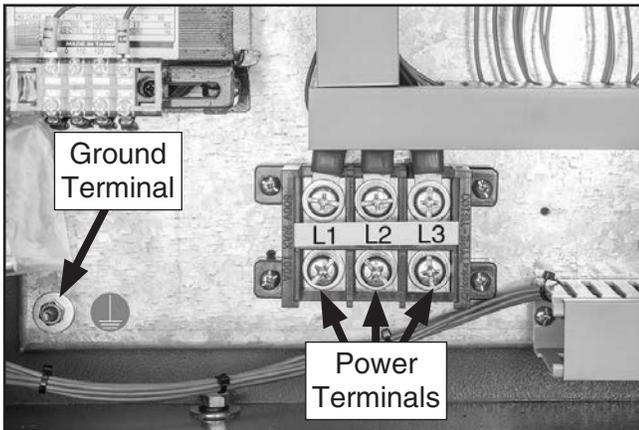

Figure 25. Terminal locations to connect ground wire and incoming power wires.
6. Connect ground wire to ground terminal (see **Figure 25**), then connect incoming power wires to power terminals (see **Figure 25**). (Refer to G0841 Wiring Manual for detailed wiring diagrams.)
- If headstock *lowers* when UP button is pushed and *raises* when DOWN button is pushed, then power phase polarity *is not correct*. Push Emergency Stop button, disconnect machine from power source, switch any two of three incoming power supply wires inside electrical panel (refer to **Figure 25** on **Page 28**), then restart Test Run.